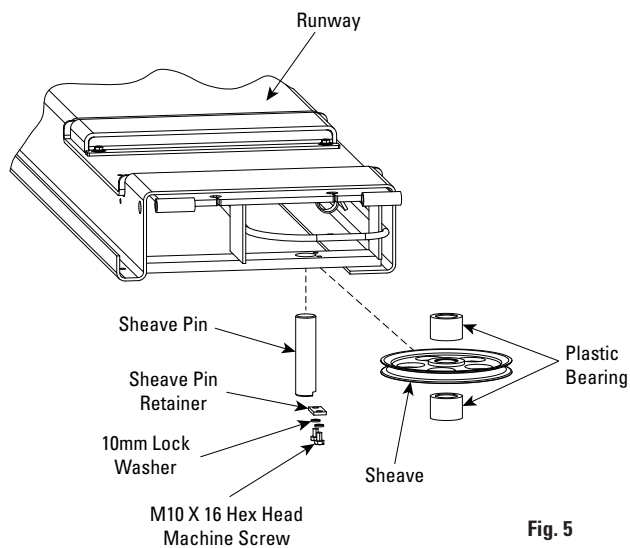

Fig. 5
- Position rear yoke at end of runways. The opening in the side of the yoke should be lined up with the cable sheaves in the runway ends. Feed cable ends through yoke openings. Be sure cables are not crossed inside yoke. Feed cable #1 through right runway, Fig. 3 and 4. Assemble sheaves and bearings into both ends of right runway, Fig. 5. Make sure cables are in proper sheave grooves, Fig. 3. Do not assemble sheaves in yoke ends at this time.